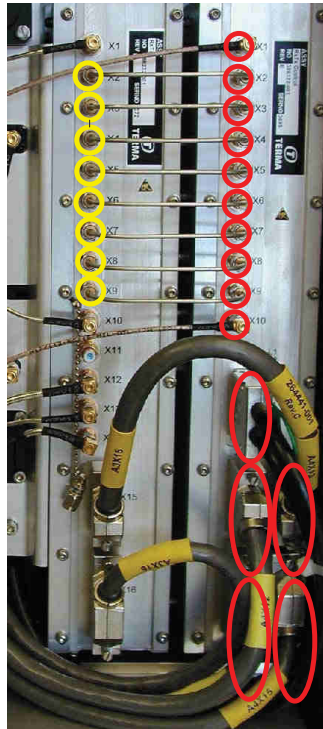

Fig. 7.35 Connectors
- 3 On RxTx Control, loosen all SMA connectors (X1 - X10) using tools 13/14, four D-Sub connectors (X12, X13, X14, X15) using tool 11 and one PCIe connector (X11) as indicated on the RxTx Control module with red circles and ellipses - see Fig. 7.35 \(p. 138\).
- 4 On the RxTx to the left of the RxTx Control, loosen SMA connectors X2 - X9 to remove or turn the semi-rigid cables so the RxTx Control can be pulled out without any obstructions - use tools 13/14. Indicated with yellow circles in Fig. 7.35 (p. 138).